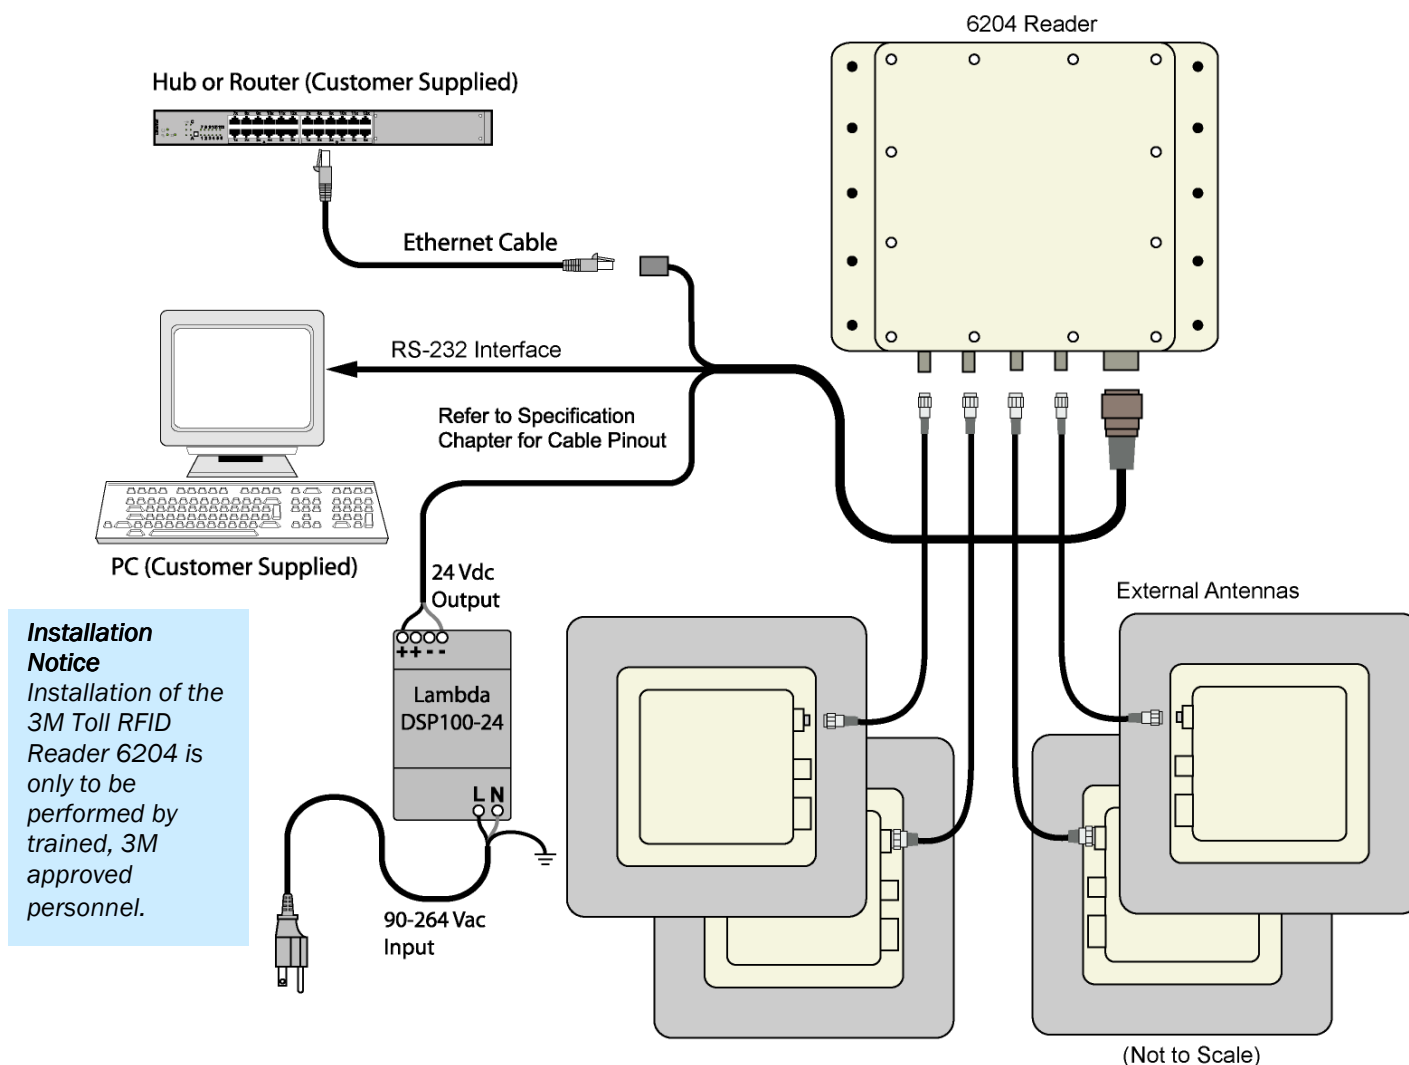

Figure 4 3M Toll RFID Reader 6204 Electrical Connections
- 5** Connect the antenna cables (see Figure 4).